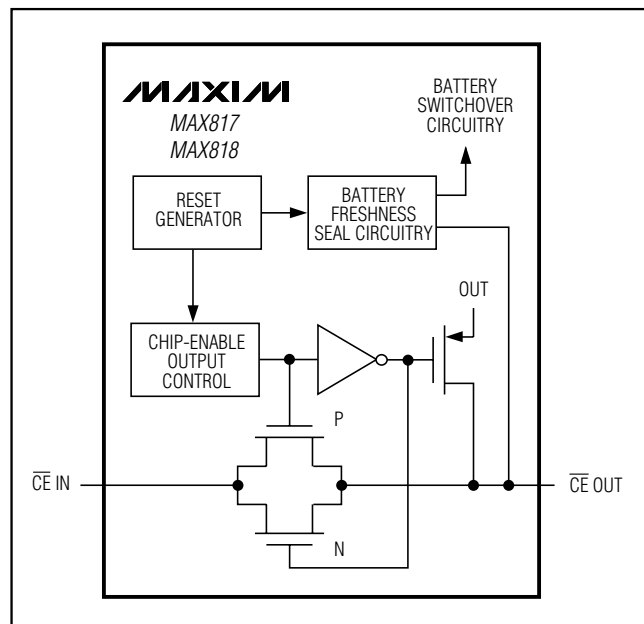

Figure 5. Chip-Enable Transmission Gate
Internal gating of the chip-enable (CE) signal prevents erroneous data from corrupting CMOS RAM in the event of an undervoltage condition. The MAX818 uses a series transmission gate from $\overline{CE\ IN}$ to $\overline{CE\ OUT}$ (Figure 5). During normal operation (reset not asserted), the CE transmission gate is enabled and passes all CE transitions. When reset is asserted, this path becomes disabled, preventing erroneous data from corrupting the CMOS RAM. The short CE propagation delay from $\overline{CE\ IN}$ to $\overline{CE\ OUT}$ enables the MAX818 to be used with most μP s. If $\overline{CE\ IN}$ is low when reset asserts, $\overline{CE\ OUT}$ remains low for typically 15 μs to permit the current write cycle to complete.
When the CE transmission gate is enabled, the impedance of $\overline{\text{CE}}$ OUT is equivalent to a 40Ω resistor in series with the source driving $\overline{\text{CE}}$ IN. In the disabled mode, the transmission gate is off and an active pull-up connects $\overline{\text{CE}}$ OUT to OUT (Figure 5). This pull-up turns off when the transmission gate is enabled.